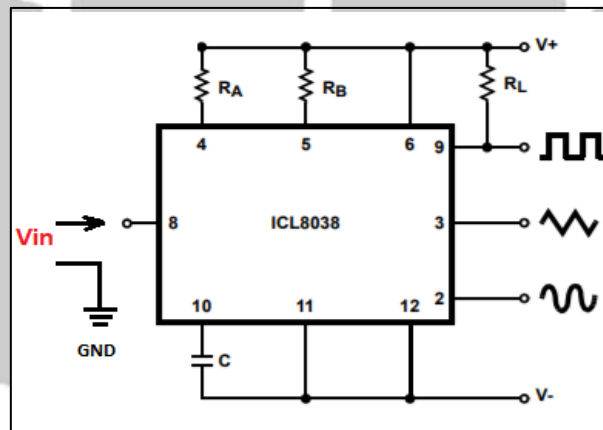

Fig 8.5: FM Modulation circuit Diagram using 8038
5. Apply modulating signal from function generator as input to trainer kit as well as to first channel of CRO as shown in fig 8.5